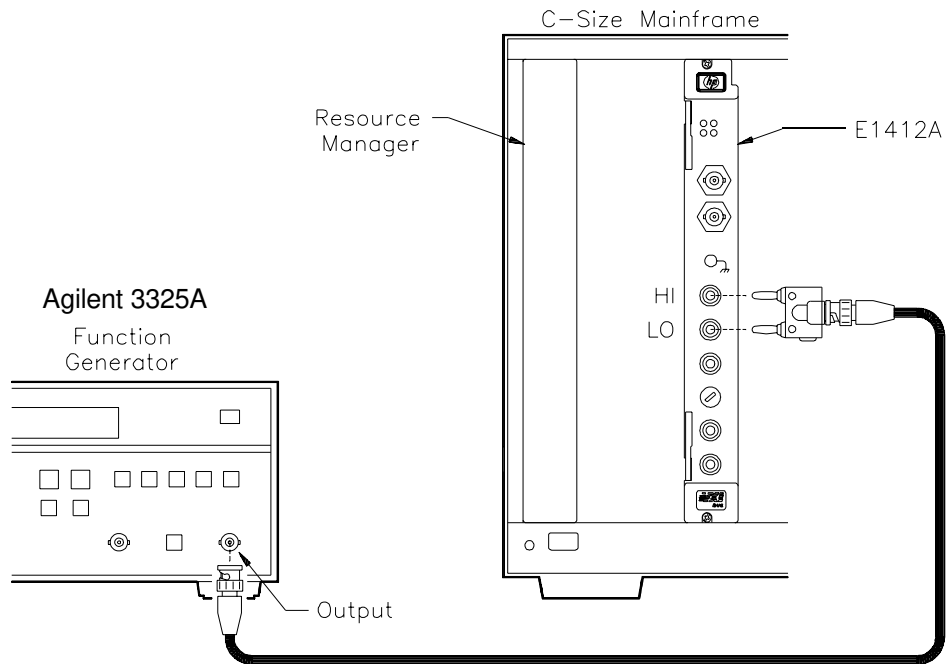

Figure 5-7. Frequency Adjustment Setup
1. Connect the Frequency Standard output across the HI and LO terminals of the Agilent E1412A as shown in Figure 5-7.